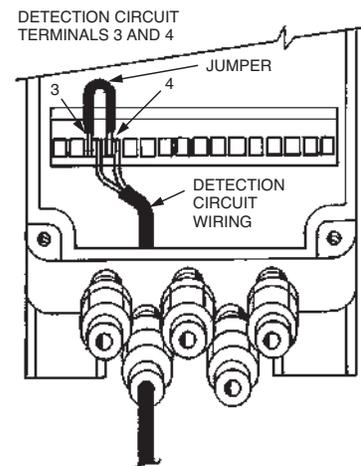

FIGURE 35
1. Using a short length of insulated wire stripped at both ends, hold one end of the wire to Terminal 3 and hold the other end to Terminal 4. See Figure 35.